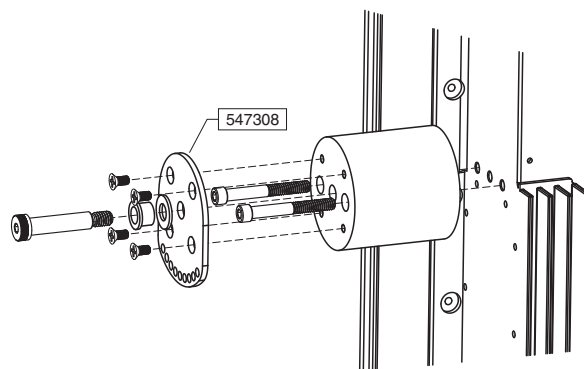

Figure 4.4 Adapter plate installation for no shield
4. If no sun shield is used, install adapter plates (2x #547308) similarly to the sun shield installation. Rotate the plate to the position which matches the yoke orientation. Refer to Figure 4.4.